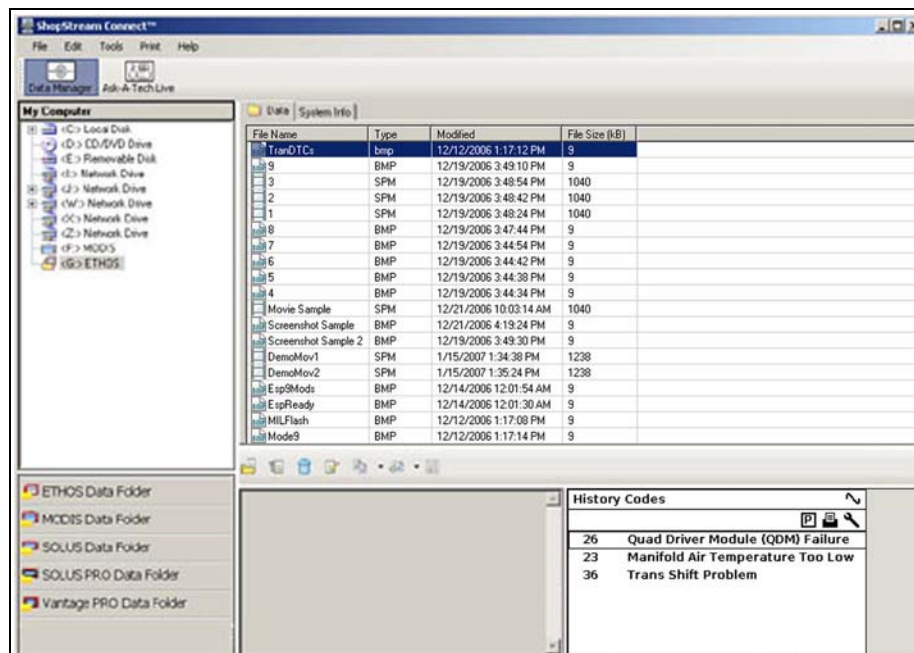

Figure 2-11 Sample ETHOS Data
7. ShopStream Connect should default to display the data stored on your ETHOS scan tool (Figure 2-11). If not, click the **ETHOS** icon at the end of the file directory list.